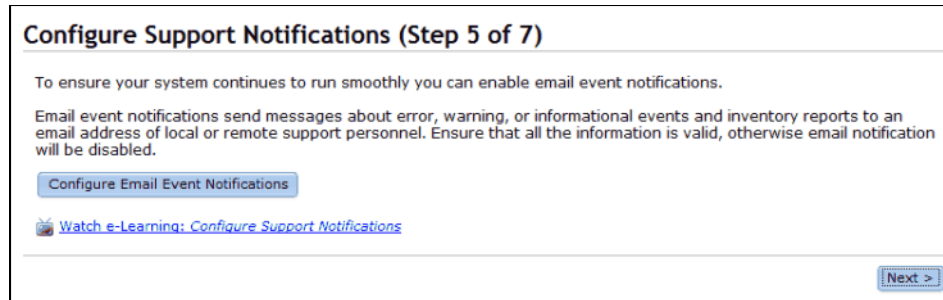
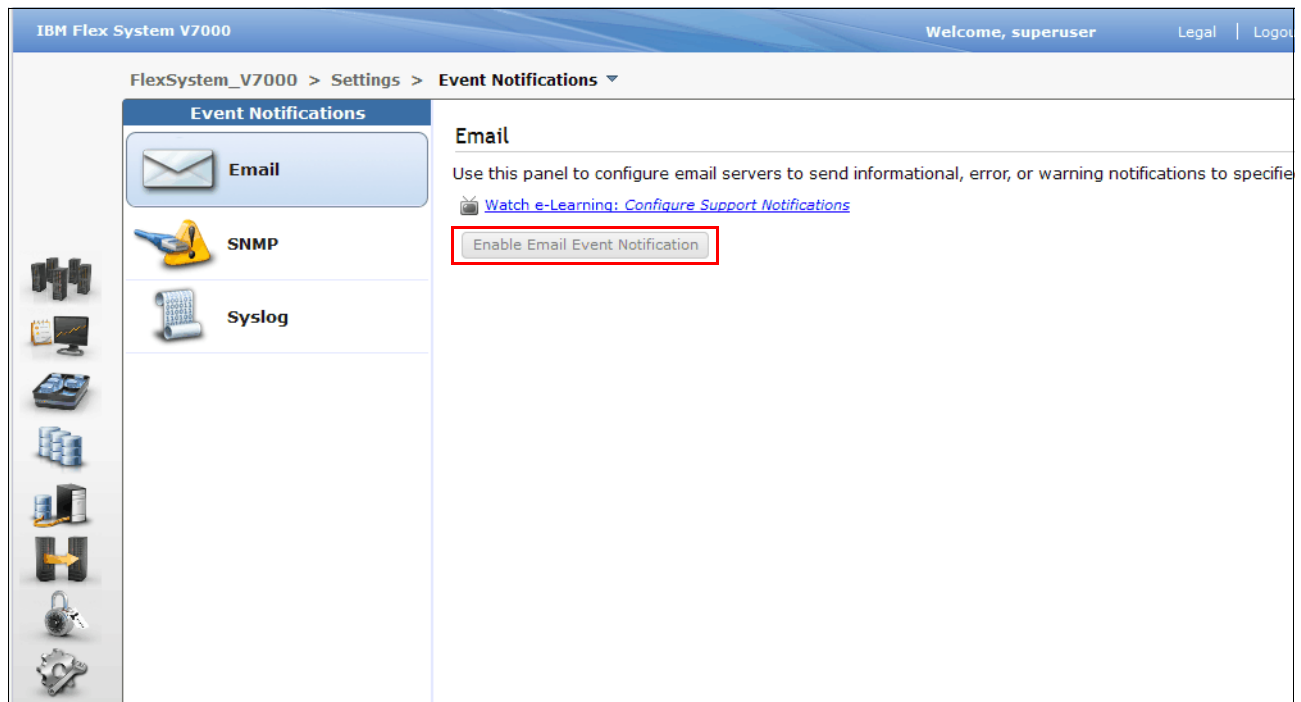

Figure 13-43 Configure email event notification during initial setup
Figure 13-44 Enable email event notification after the initial setup is complete
1. If the step to configure Support Notifications (Step 5 of 7) was complete already during initial setup, as shown in Figure 13-43 and Figure 13-44, besides sending a test email to check that all connections and infrastructure are set up correctly, no further Call Home configuration is required.
2. To enable the Call Home event notification function, go to IBM Flex System V7000 Storage Node management GUI → **Settings** → **Event Notifications** → **Email** → **Enable Email Event Notification**, as shown in Figure 13-44.